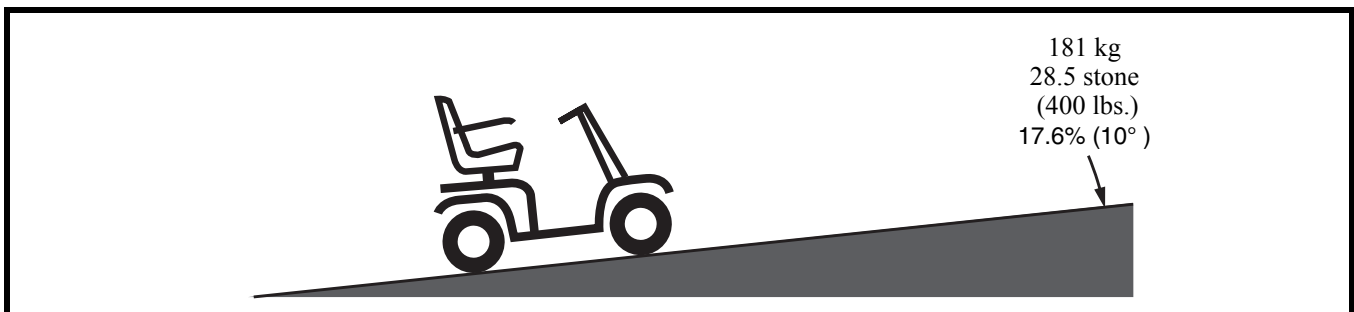

Figure 1. Maximum Recommended Incline Angle
**WARNING! Even though your scooter is capable of climbing slopes greater than those illustrated in figure 1, do not, under any circumstances, exceed the incline guidelines or any other specifications presented in this manual. Doing so could cause instability in your scooter.**
Handicap public access ramps are not subject to government regulation in all countries and therefore do not necessarily share the same standard percent of slope. Other inclines may be natural or, if man-made, not designed specifically for scooters. **Figure 1** illustrates your scooter's stability and its ability to climb grades under various weight loads and under controlled testing conditions.
**WARNING! Any attempt to climb or descend a slope steeper than what is shown in figure 1 may put your scooter in an unstable position and cause it to tip.**